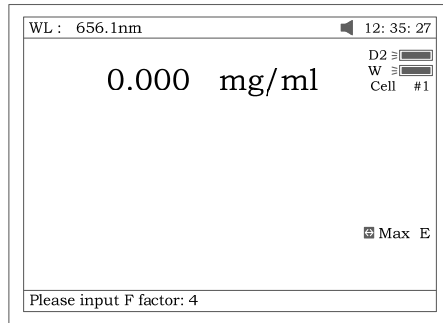

Fig 23
- 4.1 Press **[F3]** to input known F value, Fig 23. Then push the sample into main light path to take reading of concentration. Push sample of known concentration into the main light path.